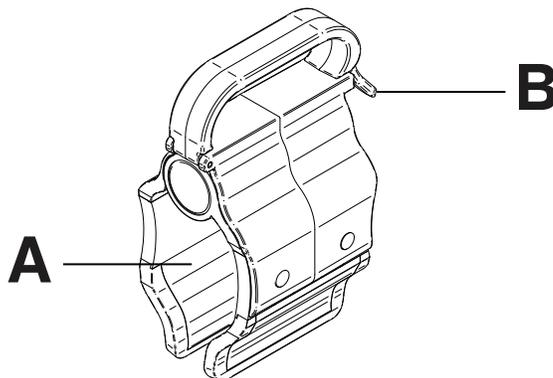

Figure 75: Line management clip
1. Open the clip (A) (Figure 75 on page 79).
1. Raise the clip prong (B) (Figure 75 on page 79).